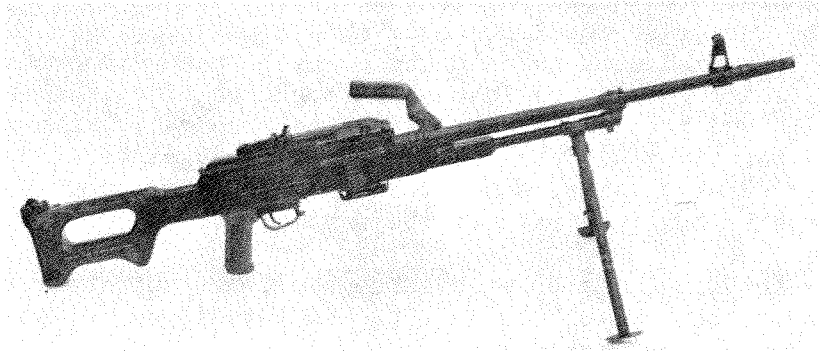

Figure 3-1. PKM machine gun placed on flat surface, muzzle pointing in safe direction, bipod legs extended.
b. Place the weapon on a flat surface, muzzle pointing in a safe direction (fig. 3-1) with the bipod legs extended.